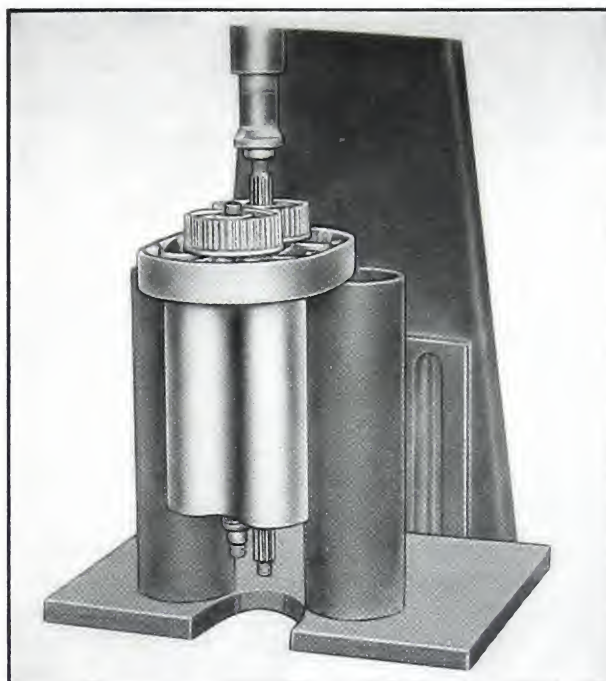

Fig. 10-5. Removing rotor and gear
11. Support under side of end plate in close to rotors and press each rotor shaft out. Mark each gear so it can be replaced on the same shaft from which it was removed. See Fig. 10-5.